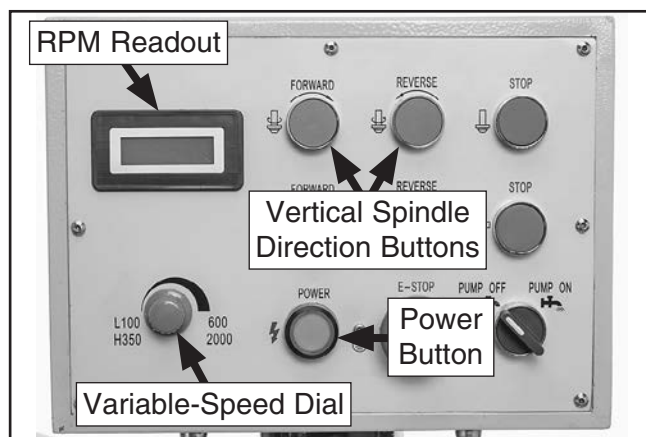

Figure 35. Controls to adjust spindle speed.
2. Rotate variable-speed dial fully counterclockwise (slowest), then press power button and use vertical spindle direction buttons to choose direction of spindle travel and start spindle rotation (see **Figure 35**).